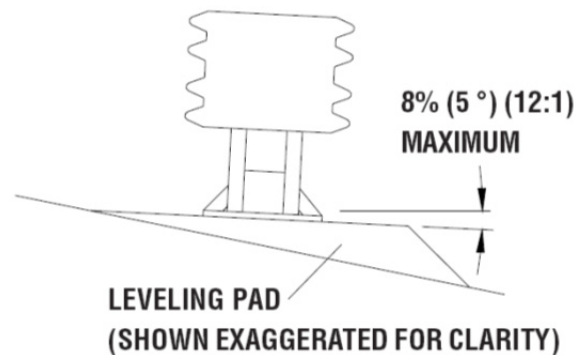

figure 4
- 3) **Cross-slope**– if there is a cross-slope of more than 8% (5 deg.), or if the cross-slope varies (twists) more than 2% (1 deg.) over the length of the system, a concrete leveling foundation may be required (see Figure 4).